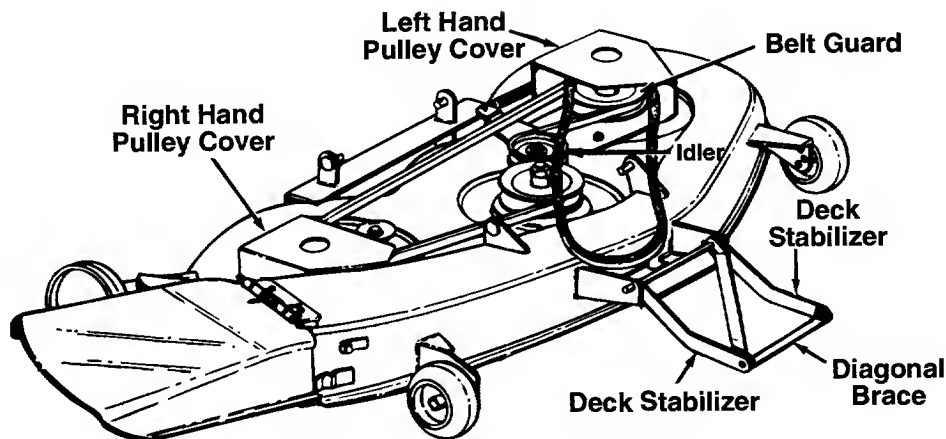

FIGURE 27.
DECK BELTS (See figure 27)
2. Remove the left hand pulley cover by unhooking the spring and removing five self-tapping screws. See figure 27.